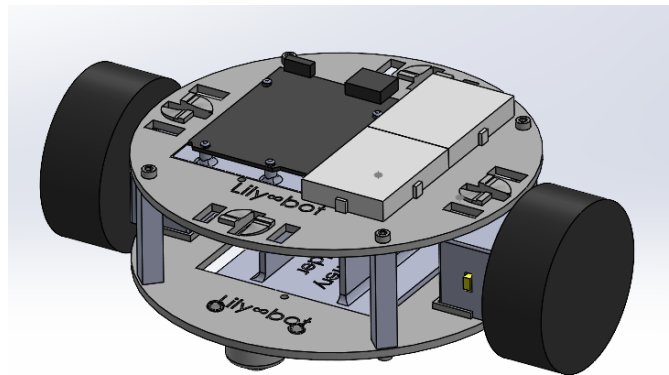

Figure 16: Two wheels attached to two DC motors on side of Lily $\infty$ Bot
16. Finally, attach the two wheels to the DC motors as shown in Figure 16.